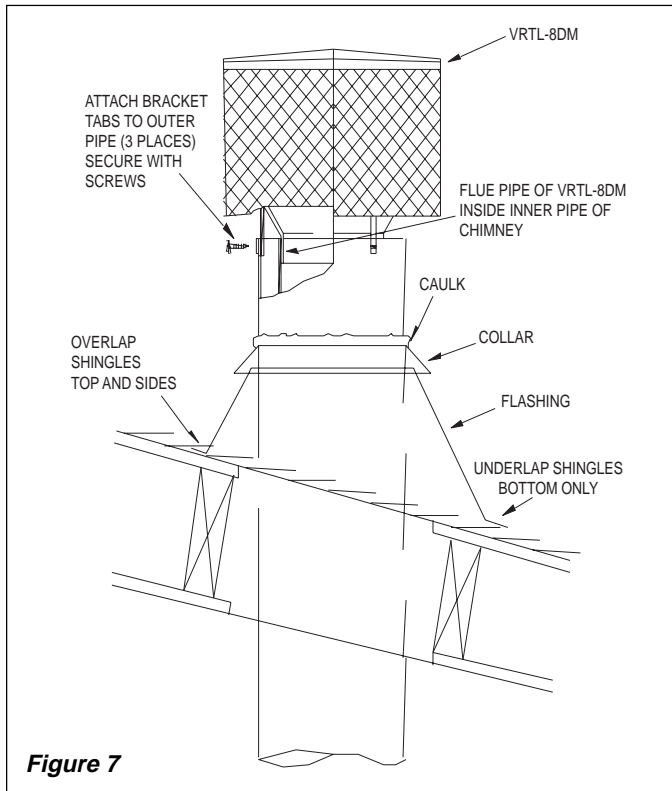

Figure 7
STEP 2: Install the storm collar on double wall chimney, push collar down to flashing and seal (see Figure 7).